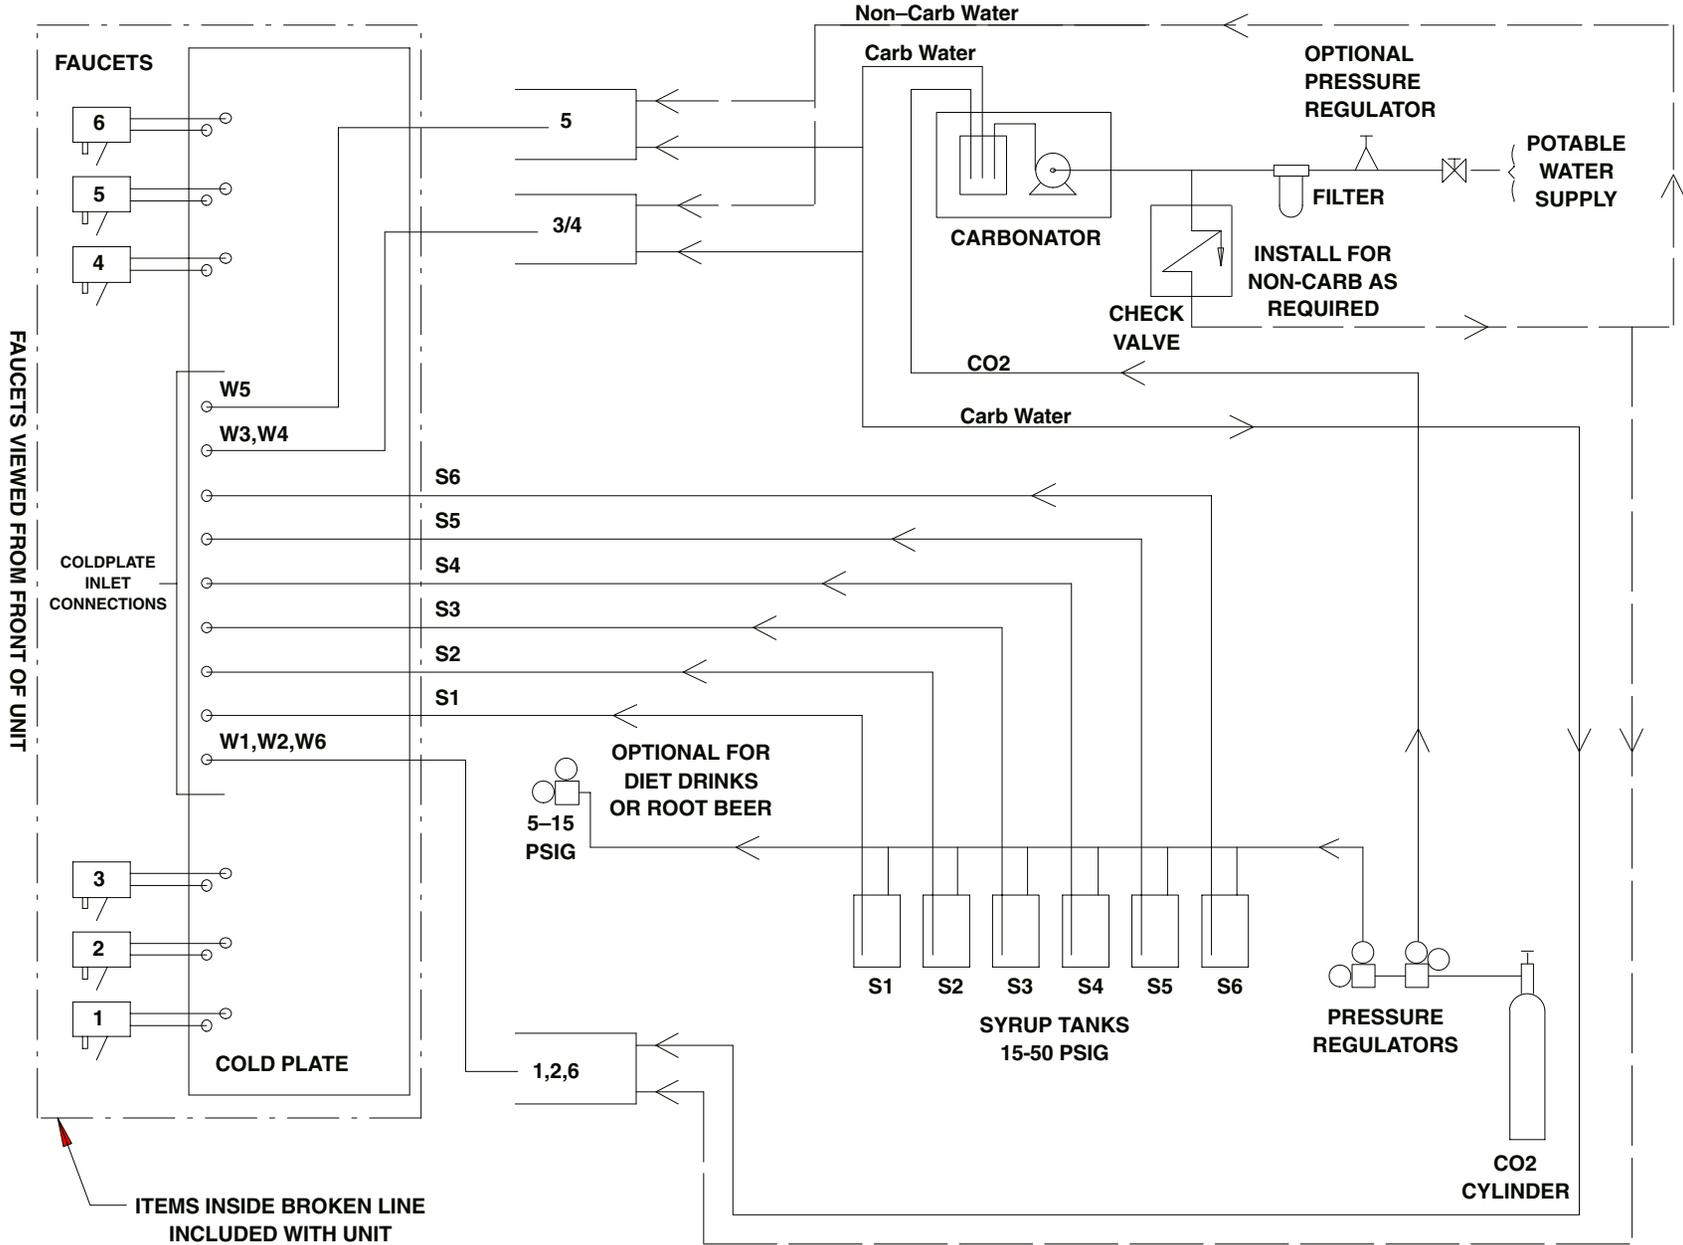

FIGURE 4. BC MODEL (UNIT WITH SIX BEVERAGE FAUCETS)
4. Connect the beverage system product tubes as indicated in the applicable Flow Diagram (see Figures 4 through 7). This work should be done by a qualified Service Person. Any non-carbonated water tubing *must* be connected to the outlet of the check valve.
NOTE: See applicable Flow Diagram (see Figure 4 through 7) or decal on lower front panel of the unit for the location of syrup and water connections.